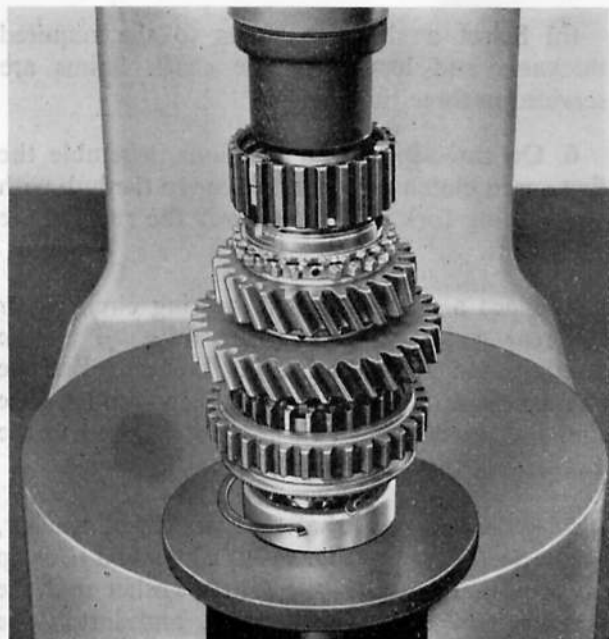

Fig. G.37. Pressing the top speed hub on to the mainshaft
11. Place the top speed hub on the front end of the shaft with the spigoted end of the hub towards the front end. Locate the slots in the synchronizing ring with the sliding keys in the hub. Engage the internal splines of the hub with those on the shaft and press home the hub (Fig. G.37).